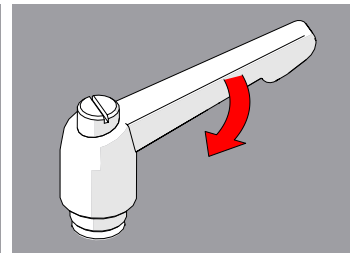

Fig. 29 - Tighten handle
3. Release the lever and utilize the new tightening position (Fig. 29).